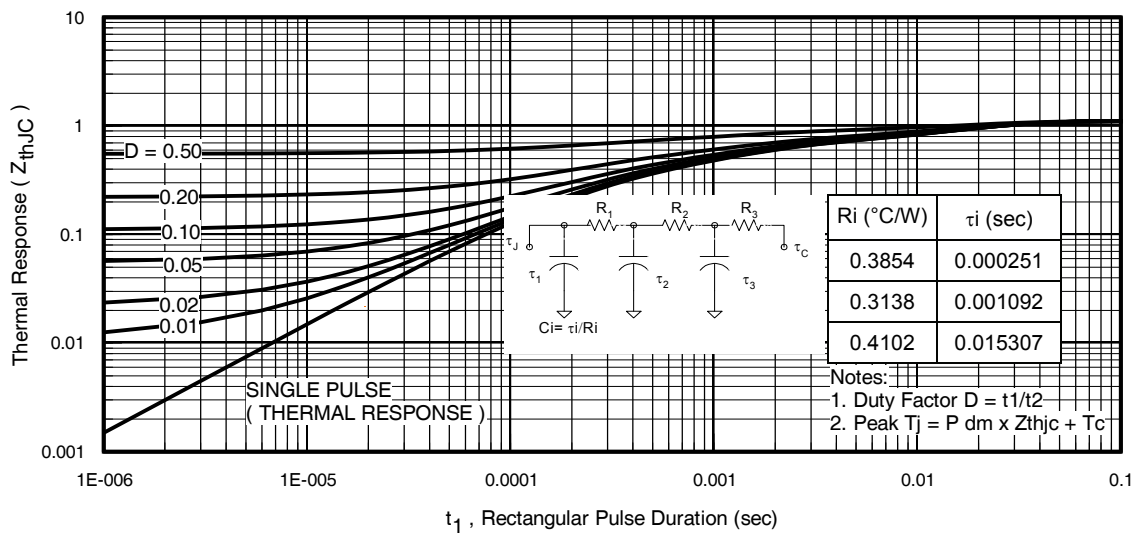

Fig 11. Maximum Effective Transient Thermal Impedance, Junction-to-Case
- ① Repetitive rating; pulse width limited by max. junction temperature. (See fig. 11)
- ② Limited by T_{Jmax} , starting $T_J = 25^\circ\text{C}$, $L = 0.13\text{mH}$, $R_G = 25\Omega$, $I_{AS} = 42A$, $V_{GS} = 10V$. Part not recommended for use above this value.
- ③ Pulse width $\leq 1.0\text{ms}$; duty cycle $\leq 2\%$.
- ④ $C_{oss\text{ eff.}}$ is a fixed capacitance that gives the same charging time as C_{oss} while V_{DS} is rising from 0 to 80% V_{DSS}